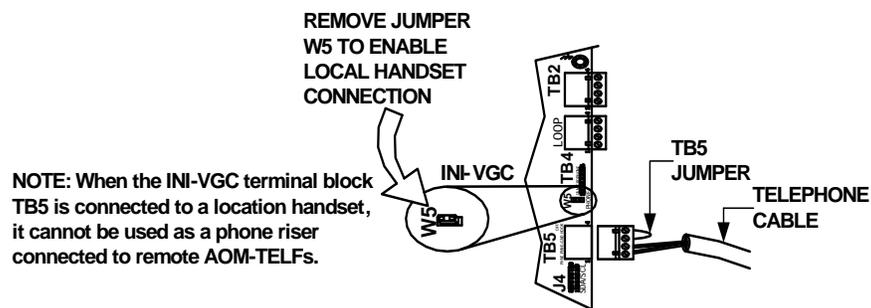

Figure 2.6.7.1 INI-VGC Wiring
4. Plug the pre-assembled four-pin terminal block that terminates the phone cable into the INI-VGC TB5. Remove INI-VGC jumper W5 to enable the local handset connection, see Figure 2.6.7.1.